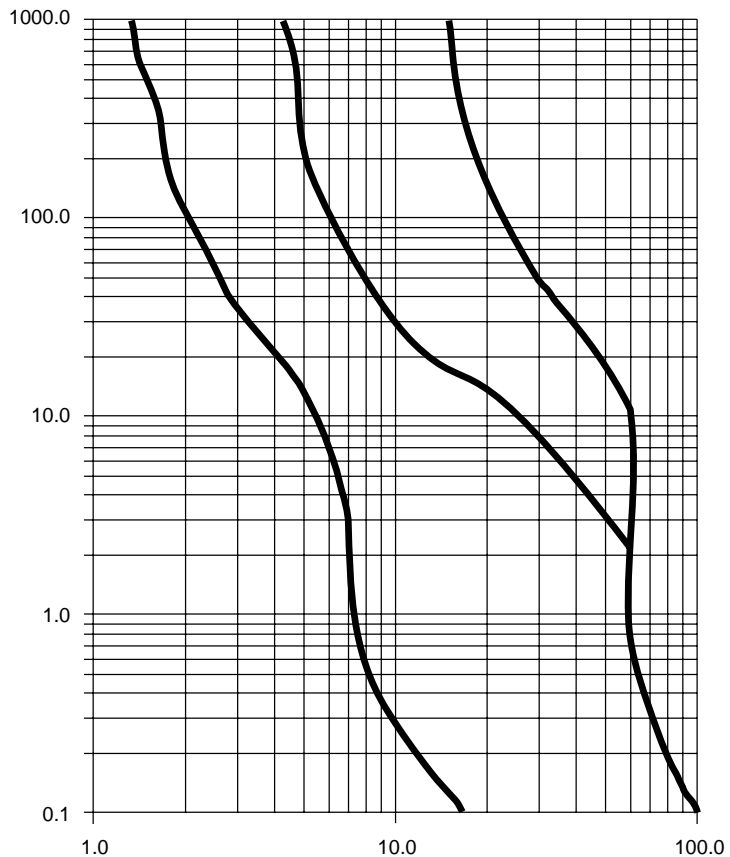

Figure 5-5 Fuse Current vs. Melting Time
Figure 5-5 shows the melting time vs. current for the fuses in the dynamic braking resistor kits (8803 PR01, PR02, PR03 and PR04).
- ❑ As shown in Figure 5-5 on page 83, the fuse will pass approximately 6.2 A for 5 seconds before tripping. This limits the resistors to 3844 W for 5 seconds instead of 6000 W calculated in the previous step.